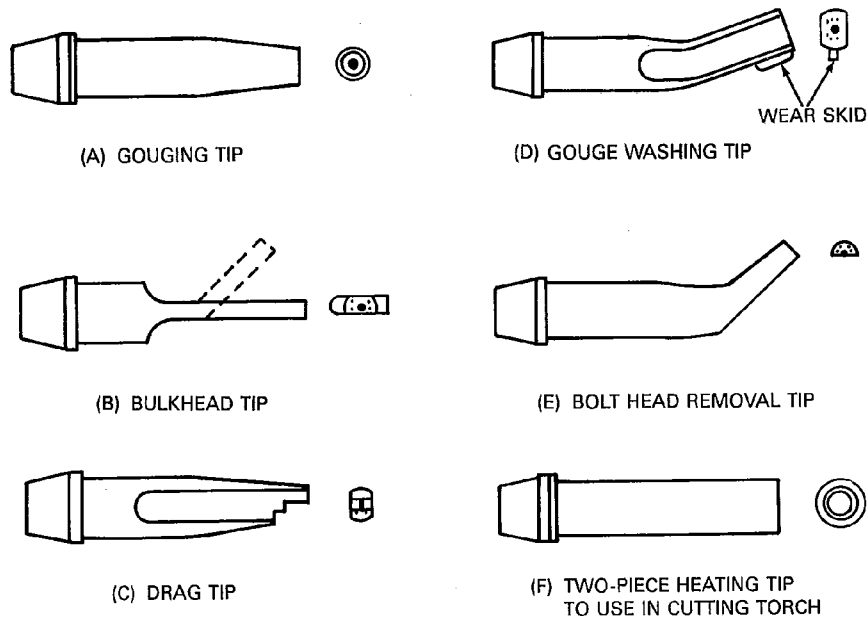
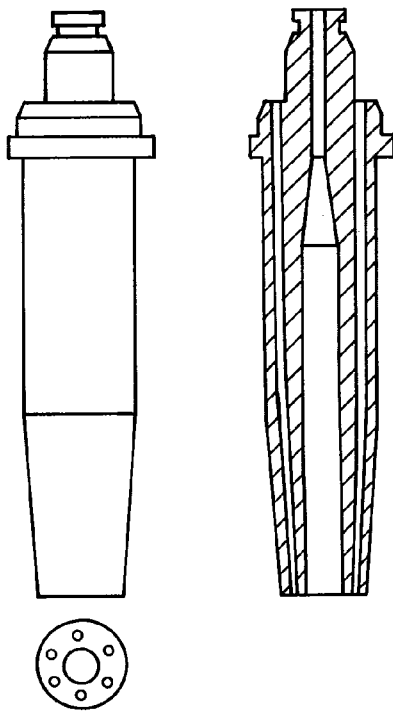

Figure 15—Special Application Tips
Figure 16—Oxygen Orifice Design for Washing Tips
6.5 Gouging, Washing, and Special Applications. Many special tips for specific applications are available (see Figure 15). Tips used in applications where gouging and washing actions are desired usually utilize a low-velocity oxygen stream. This can be achieved by a centerhole design that incorporates a small metering hole opening into a larger diameter exit hole (see Figure 16). Gouging and washing operations require a degree of skill that can be obtained only through experience.
Other applications that utilize specially designed tips (see Figure 15) are trimming and cutting light sheet metal, stiffener removal, etc. Drag tips are guided by pulling the tip along the edge of a guide. Bulkhead and bolt head tips permit cutting off of right angle projections flush with the base metal without damage to the parent metal. The equipment manufacturer should be contacted for information regarding specialty applications and procedures.